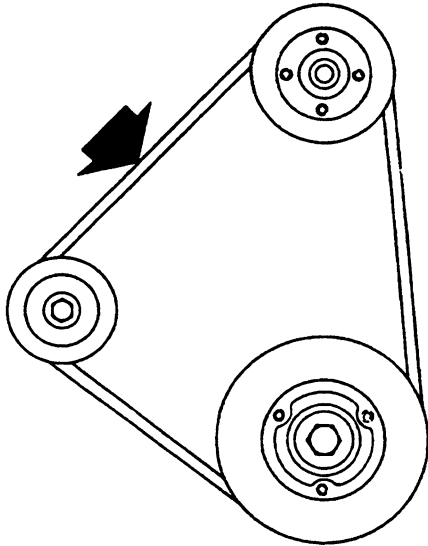

Fig. N1
2. With thumb pressure of approximately 10 kgf (22 lbf), press the fan belt down at the centre of the longest free length of the belt and check the belt movement (see fig. N1). The belt movement must be 10 mm (3/8 in). Where necessary, adjust the tension as given below.
5. Fit fan belt and adjust tension (see fig. N1).